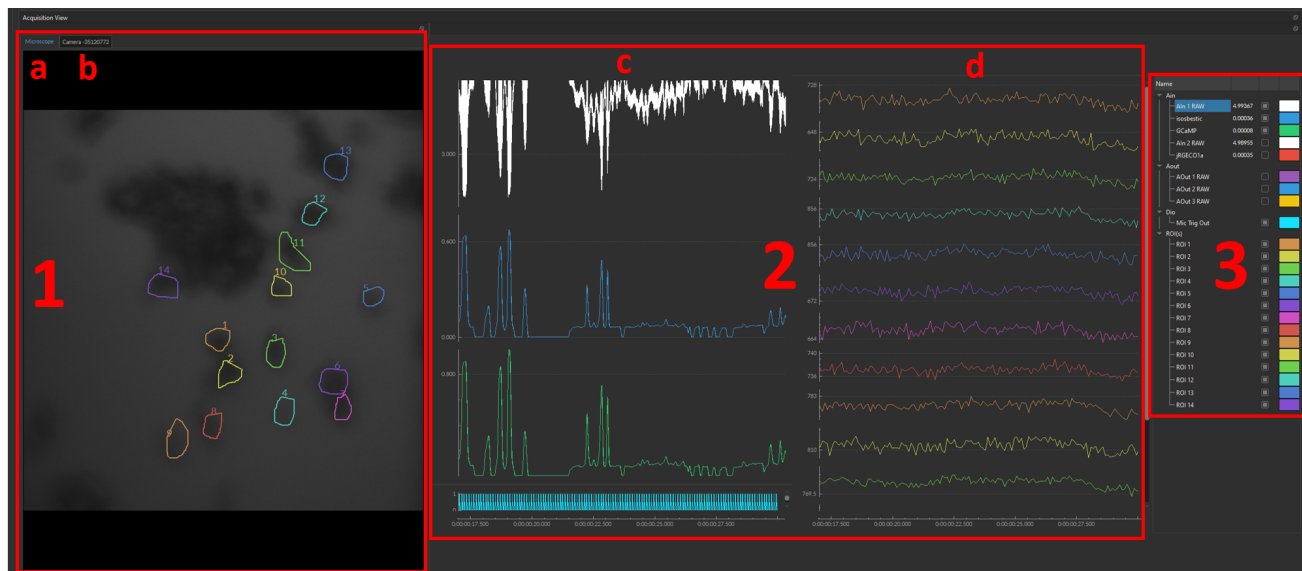

Figure 11.9: Acquisition View
Thus, depending on what type of channels are active, the interface can look drastically different. Nonetheless, there are a few common elements that are typically displayed in the **Acquisition View** (Fig. 11.9), which will be treated in the following sections:
1. The **Video View** (Fig. 11.9, 3) **only available upon addition of either **Camera** or **Microscope** channels**
- a) Microscope View (Fig. 11.9, a) - Section 11.4.4
- b) Camera View (Fig. 11.9, b) - Section 12.7.2.1
2. The **Graph View** (Fig. 11.9, 2) - Section 11.4.1.
- c) Analog & Digital Inputs and Outputs (Fig. 11.9, c)
- d) ROI(s) View (Fig. 11.9, d) - **only available upon **Microscope** channel addition**
3. The **Graph List** (Fig. 11.9, 3) - Section 11.4.2.
The **Graph List** (Fig. 11.9, 3) always accompanies the **Graph View** (Fig. 11.9, 2), but can be hidden/shown, as any of the different channels from the list, by right clicking on any of the channel name shown in the **Graph View(s)** (Fig. 11.16).